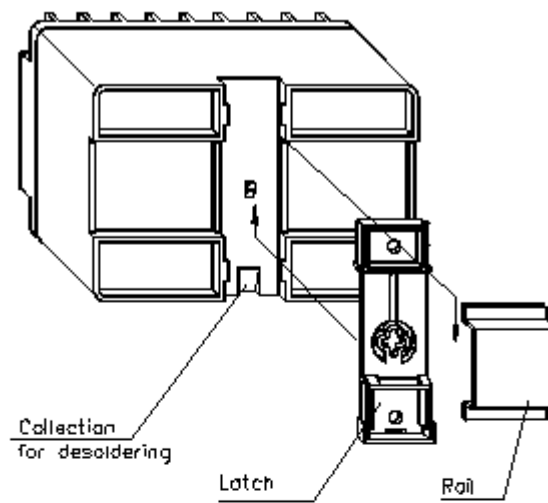

Figure C.1 Mounting on the Rail
- place a latch according to figure C.1 to link the projection of the case to rail edge;